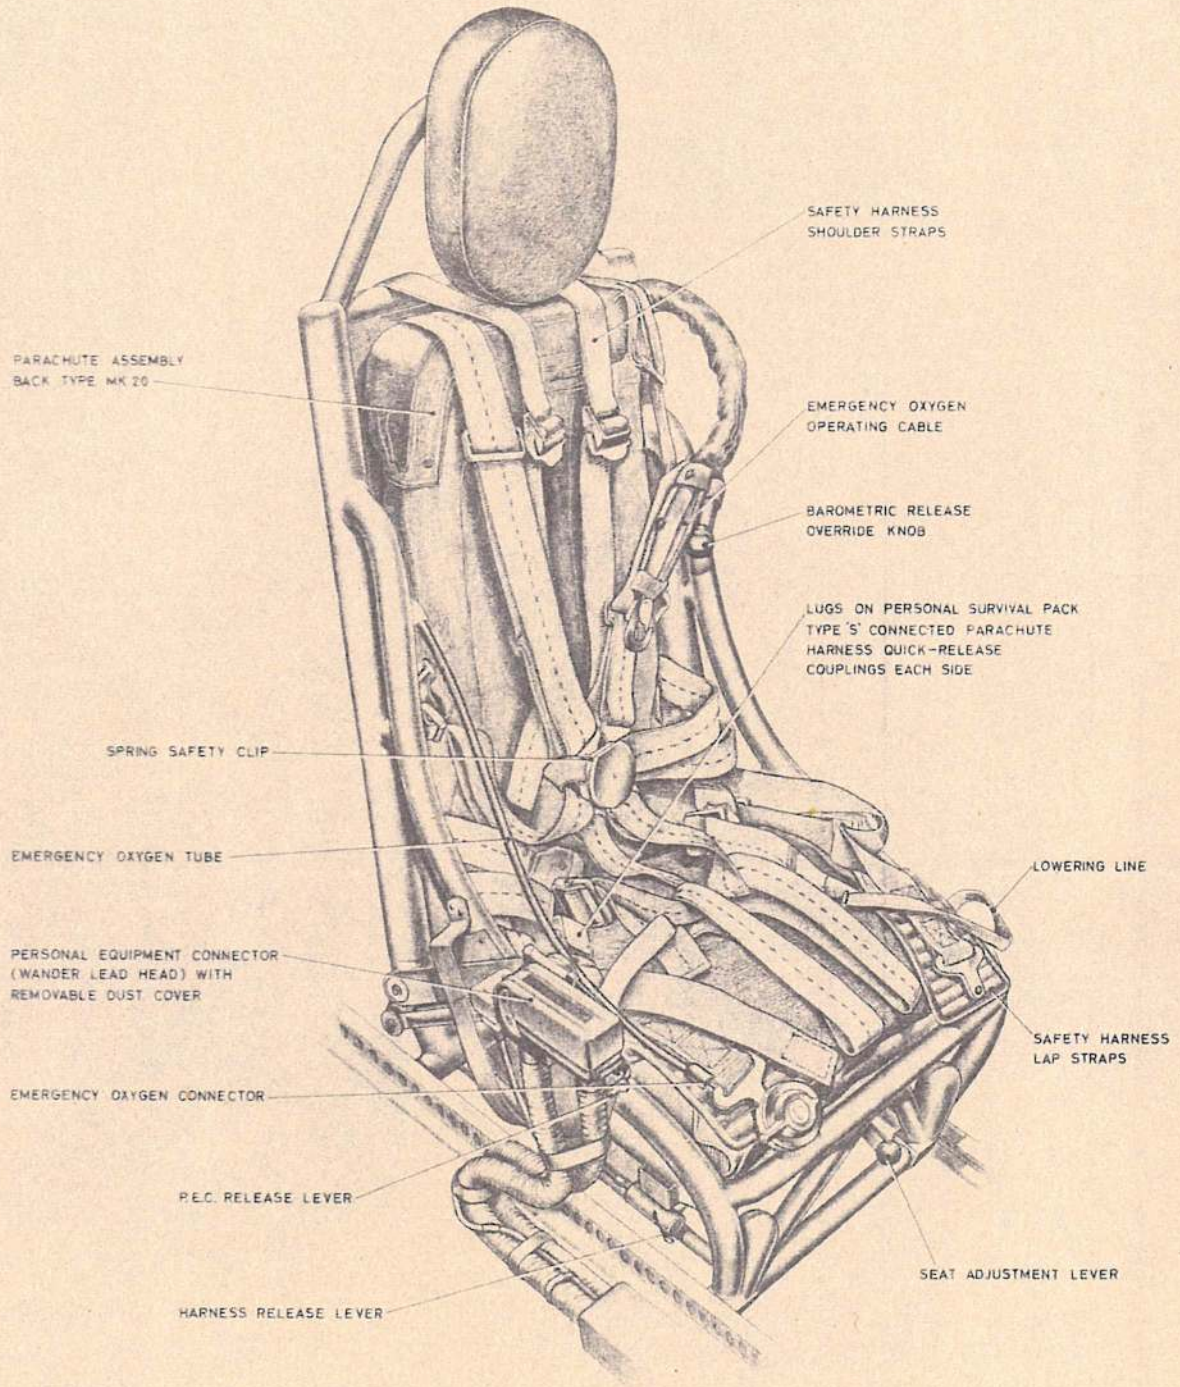

Fig. 12. The static seat equipped
47. To equip each of the static seats proceed as follows (fig. 12):-